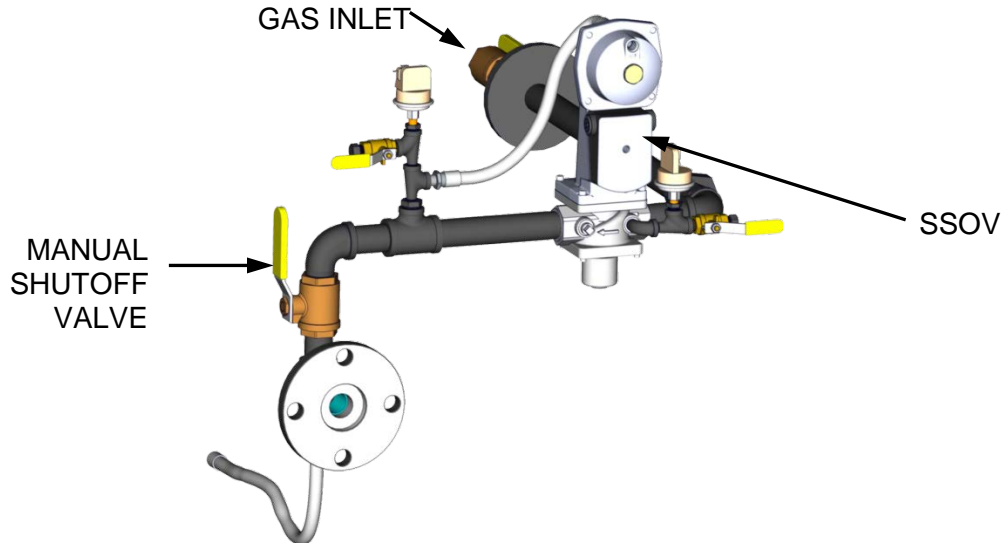

Figure 3-3. SSOV Location (INN1060 Gas Train shown)
2. The unit checks to ensure that the Proof of Closure (POC) switch in the downstream Safety Shut-Off Valve (SSOV) is closed. See Figure 3-3 for SSOV location.